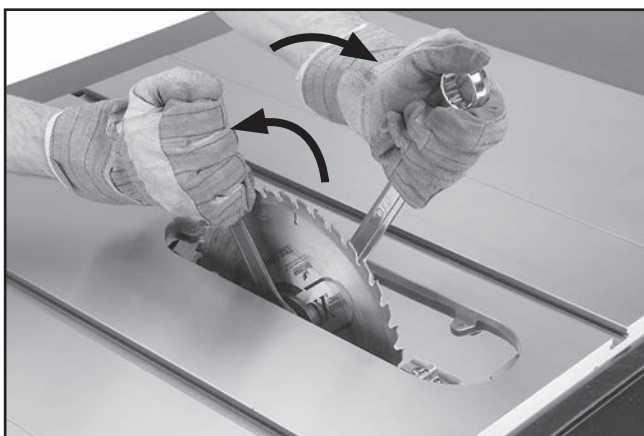

Figure 43. Example of removing table saw blade.
3. Use included arbor wrenches to loosen and remove arbor nut, flange, and blade (see **Figure 43**). Arbor nut has right hand threads; rotate counterclockwise to loosen.